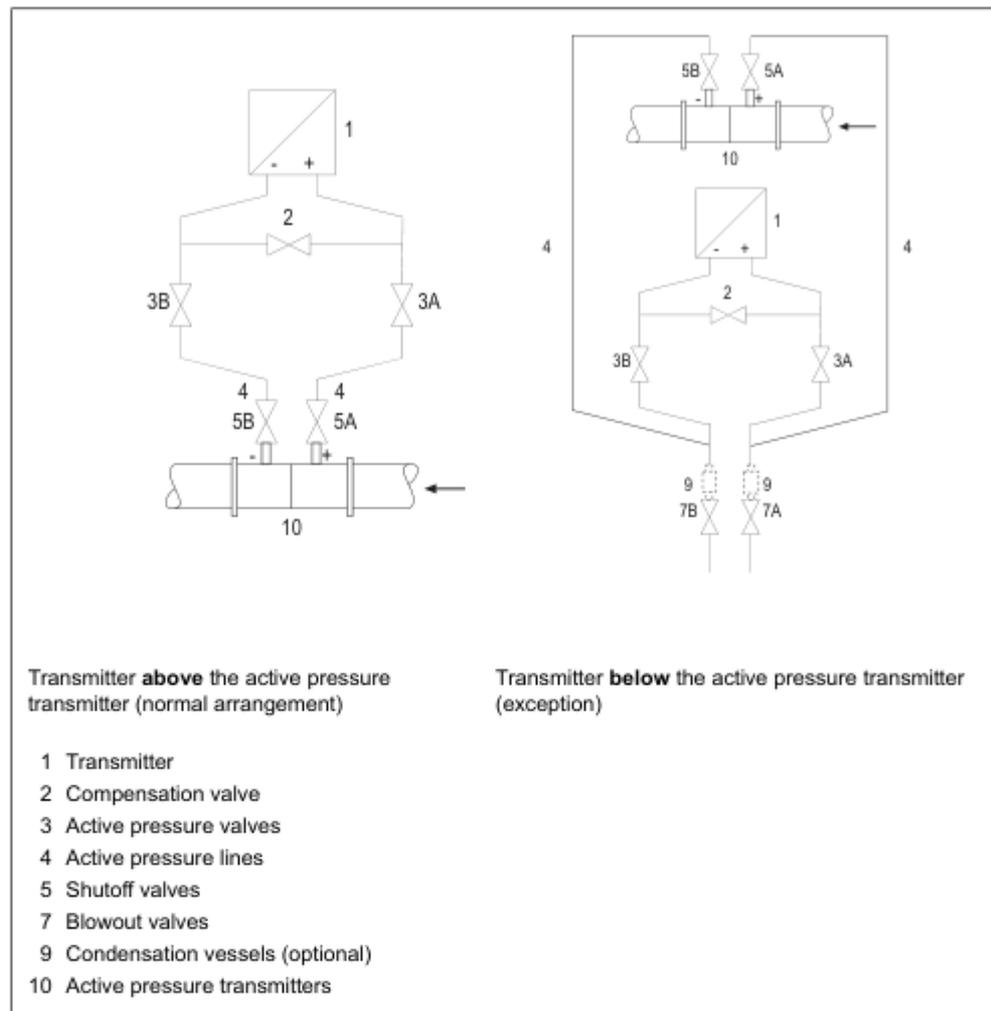

Figure 41 Measuring gases
1. Open both shutoff valves (5, Figure 41, pg. 100) at the pressure taps
2. Open the compensation valve (2).
5. Close the compensation valve (2).